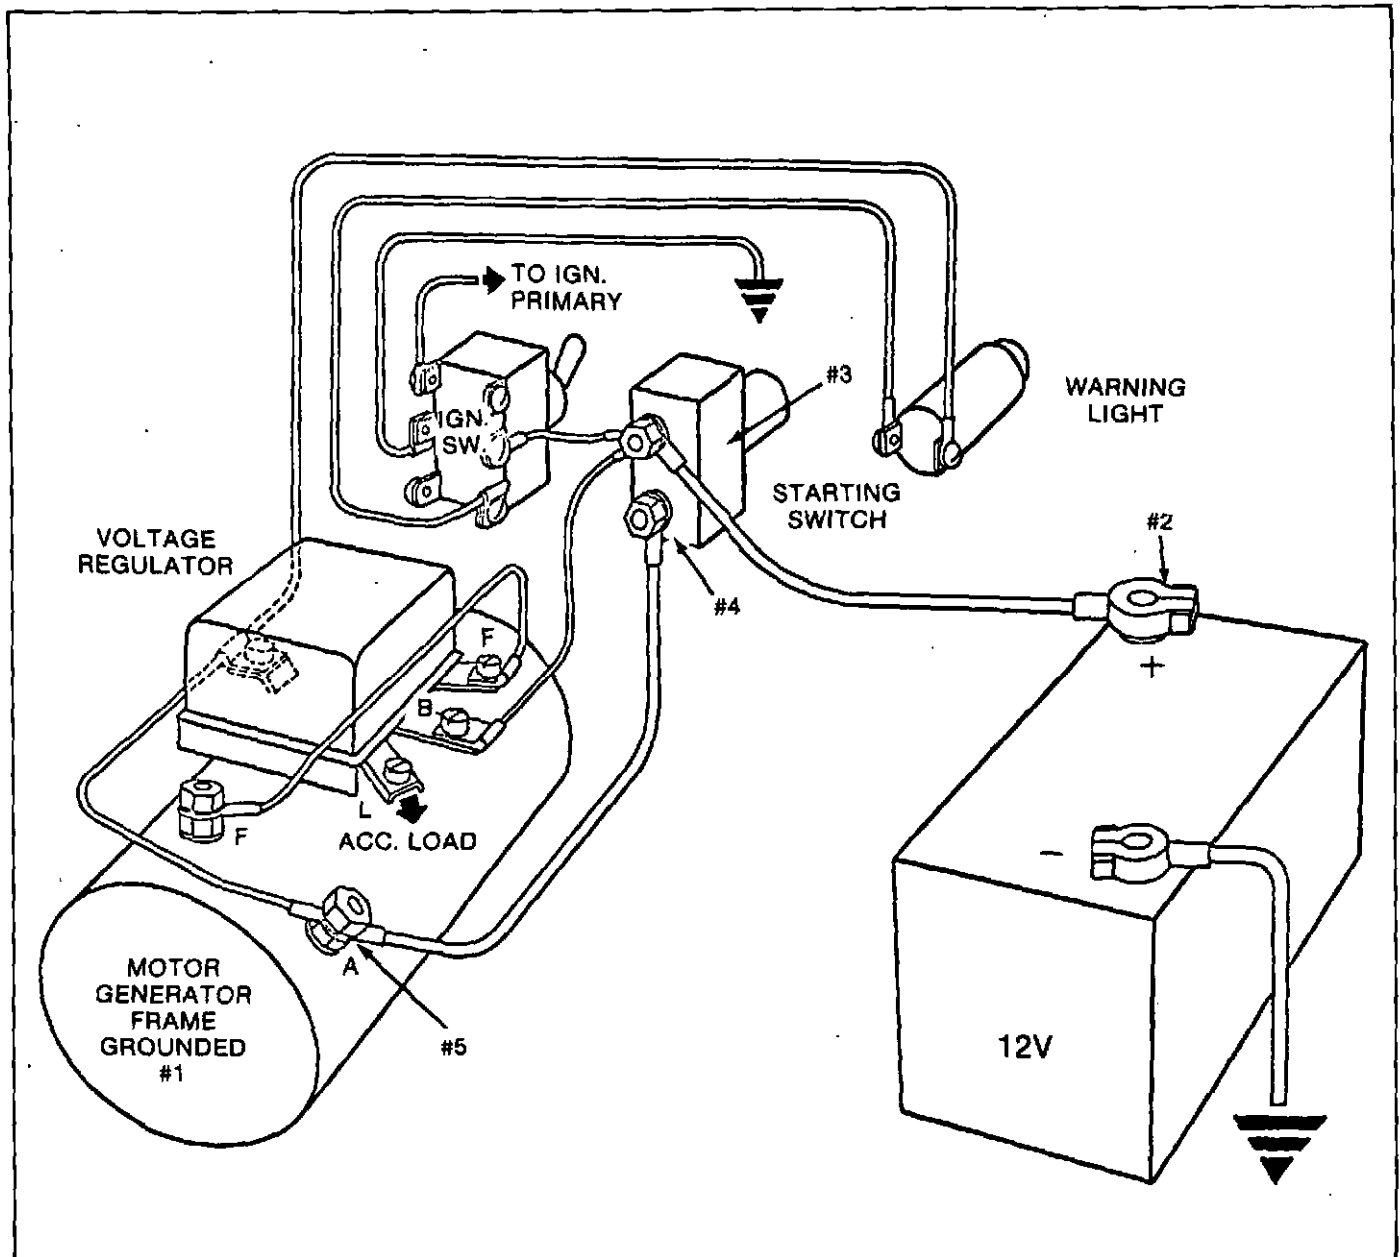

Fig. 132 — Wiring Diagram
A simple method of increasing the charge rate is to disconnect the lead to the regulator BAT terminal and reconnect this lead to the regular (L) terminal. This bypasses the current-voltage feature of the regulator automatically increasing the amount of charge to the battery. See Fig. 132.
CHECKING STARTER-GENERATOR AND REGULATOR (See Fig. 132)